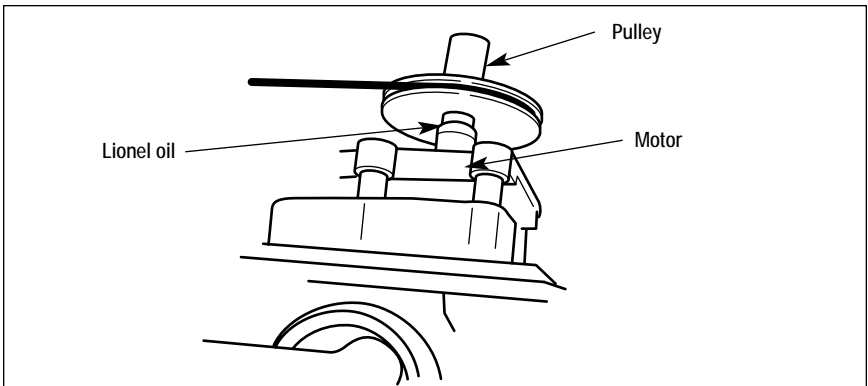

Figure 4. Pullmor motor armature lubrication
2. Locate the Snowplow drive pulley on top of the motor at the rear of the locomotive. Refer to Figure 4.